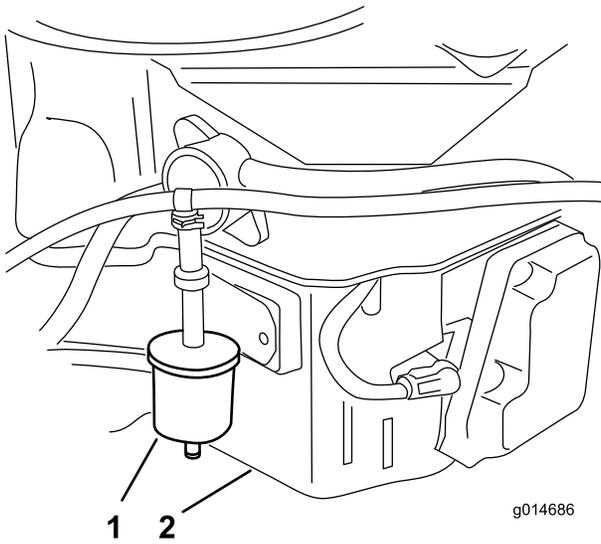

Figure 32
3. Remove the existing fuel vent filter (Figure 32).